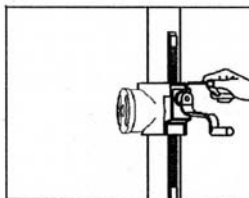

fig.4
3. Install bracket handle and clamp bolt. Fig. 4, 5.